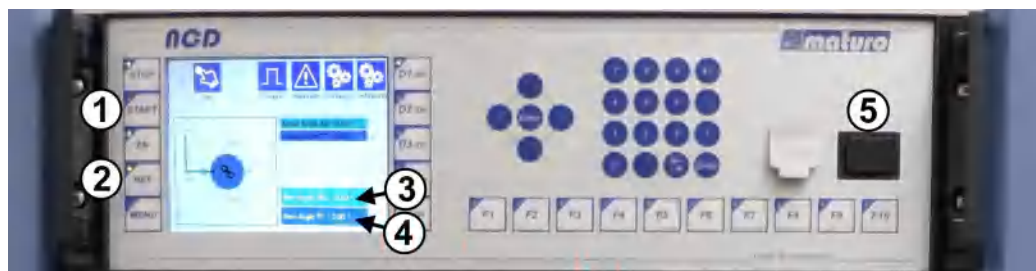

Figure 7-10: NCD controller for elevation positioner and azimuth turntable
3. Press the black standby button (labeled 5 in Figure 7-10) on the right-hand side of the front panel.
3. Press the [REF] button on the left side of the front panel (labeled 2 in Figure 7-10).
- ▶ Tap the [STOP] button in the top left corner of the NCD controller; see Figure 7-10.
3. Tap the control element **"New Angle AB1"** (antenna boom, labeled 3 in Figure 7-10).
6. Press the [START] button on the left side of the front panel (labeled 1 in Figure 7-10).
3. Tap the control element "**New Angle TT**" (turntable, labeled 4 in Figure 7-10).